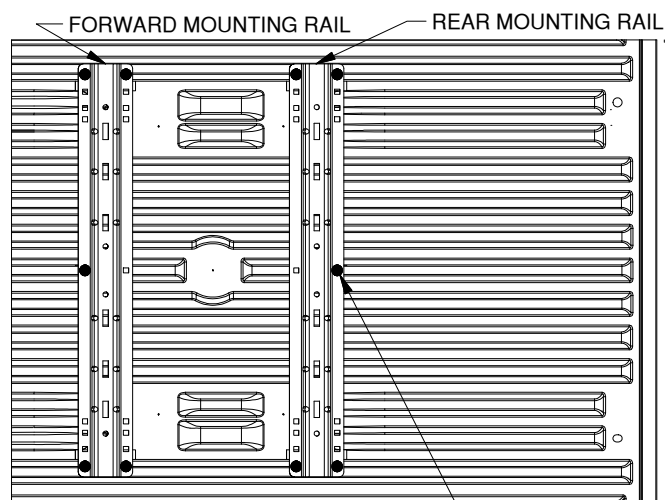

Figure A2: Detail view over bed, showing drill locations for the forward and rear bed rails. DRILL LOCATIONS HIGHLIGHTED BY BLACK DOTS
- Mark hole locations:** While carefully ensuring the mounting rail does not move, use a center punch tool to mark the 5 drill locations on the rear rail. See figure A2 for hole marking locations for this installation (forward rails will install on a later step). Once all 5 rear rail locations are clearly marked, move the bed rail out of the way and drill each location with an 1/8" drill.
3. **Drill forward mounting holes.** Using the same methods as used for the rear mounting rail, mark, drill, check, and enlarge the holes for the forward mounting rail. Refer to "DRILL REAR MOUNTING HOLES" section, steps 2 through 4, on a previous page. Notice that the hole locations are slightly different than the rear rail, see figure A2 (on the second page).